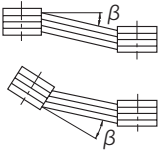

Figure 5-4
- The parallelism, eccentricity  $\beta$  of the two pulleys should be within  $20'$ . (See Figure 5-4)